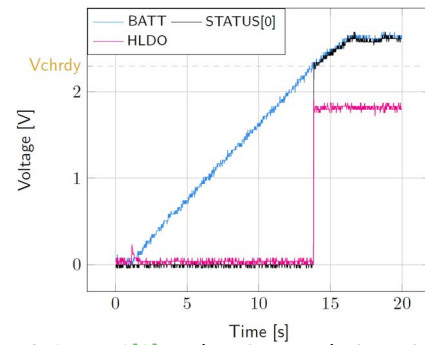

Figure 3: `STATUS[0]` and `HVOUT` evolution with `BATT`
- `BATT`: Voltage rises as the power provided by the source is transferred to the storage element (see Figure 3).
- `HVOUT/LVOUT`: Regulated when voltage on `BATT` first rises above  $V_{CHRDY}$  (see Figure 3).
- `STATUS[0]`: Asserted when the LDOs are ready to be enabled (refer to the AEM00940 datasheet “Normal Mode” section) (see Figure 3).